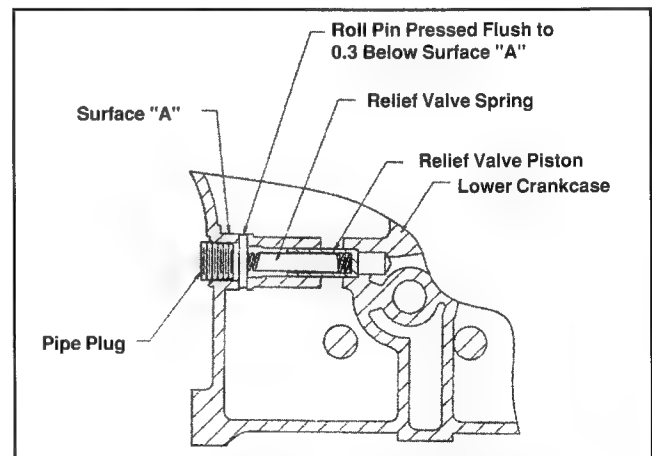

Figure 11-7. Oil Pressure Relief Components.
1. If they were removed, install the relief valve piston and spring in the lower crankcase half. See Figure 11-7.